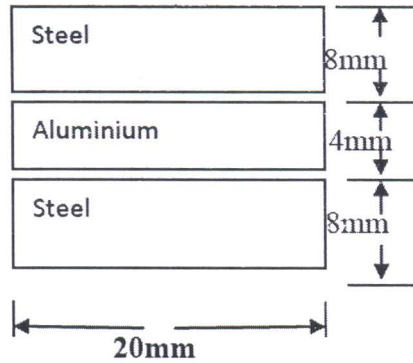

Fig.2
- b) A composite bar of 20 mm x 20 mm cross section is made up of three bars are rigidly connected at the ends when the temperature is 20°C as shown in fig.2. Determine; [8]